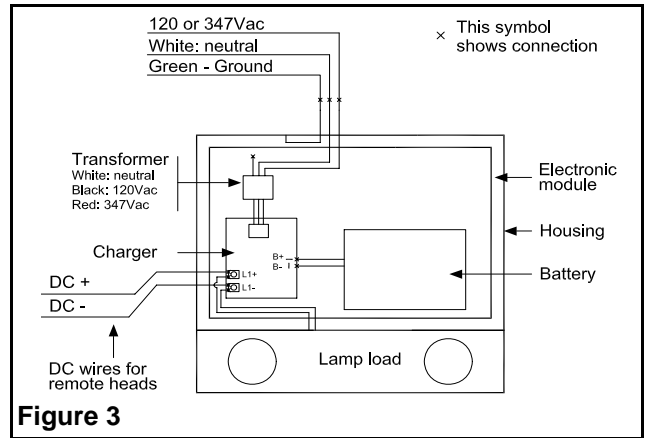

Figure 3
- a. Remove the unit cover (2). Disconnect the lamps from terminal block (see fig 3) and remove the electronic module (3). Three nuts secure the electronic module to the housing.
Auto-diagnostic models (refer to figure 3.):